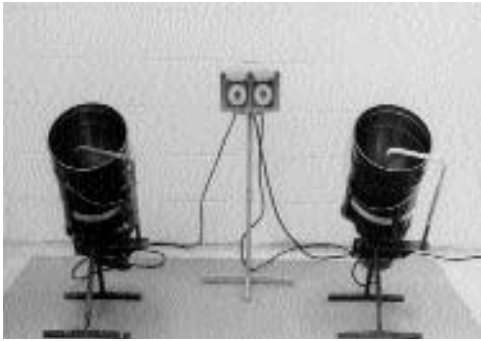

FIGURE 1
1. Position two JB Power Blenders (Product #88002) side by side with the Blender Timer (Product #87008) between them (Figure 1).